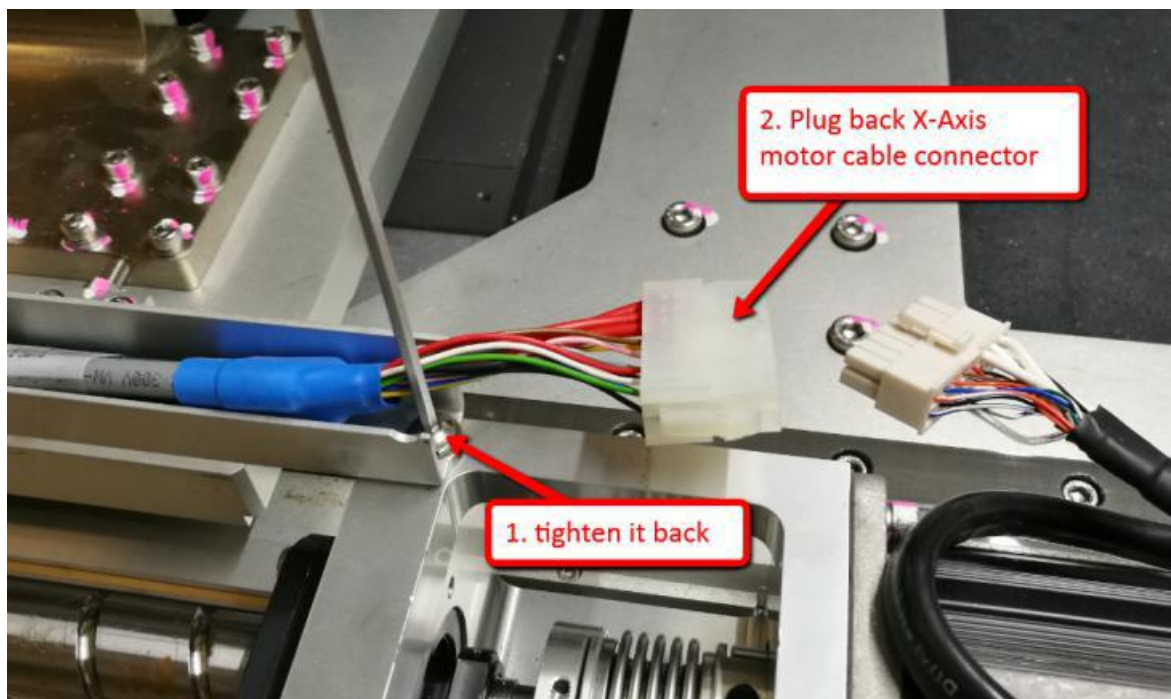

Figure 28
8. Tighten up the screw and plug back X-Axis motor cable connector as shown in Figure 28.